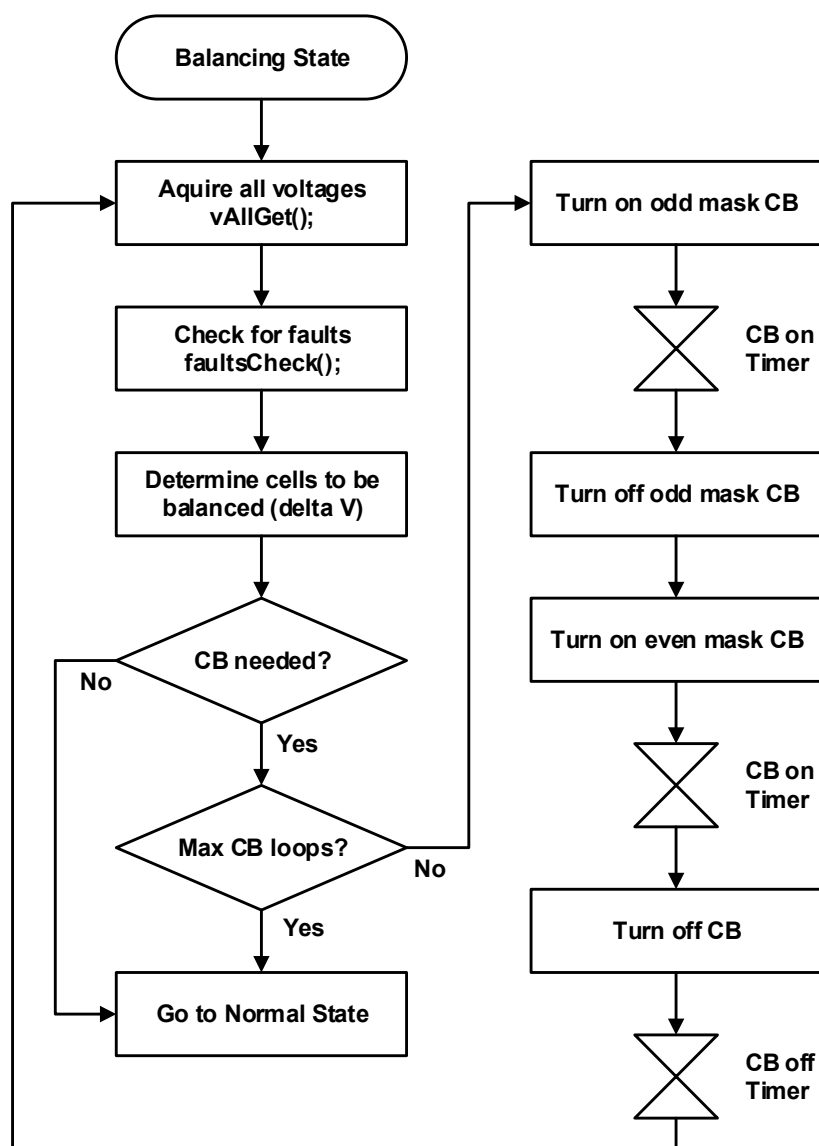

Figure 8. Cell Balancing Algorithm Flowchart
The BFE library sample project includes a sample algorithm for cell balancing (CB). The algorithm flowchart is given in Figure 8. It contains a loop, at the beginning all cell voltages are acquired and the cell with lowest voltage is found. Next, the voltage difference between each cell and the one with lowest voltage is calculated and compared with predefined thresholds. By default, if the voltage difference is more than 20mV the cell is identified as needing balancing. However, if the voltage difference is more than 500mV a problem with the battery is considered and an error is returned.